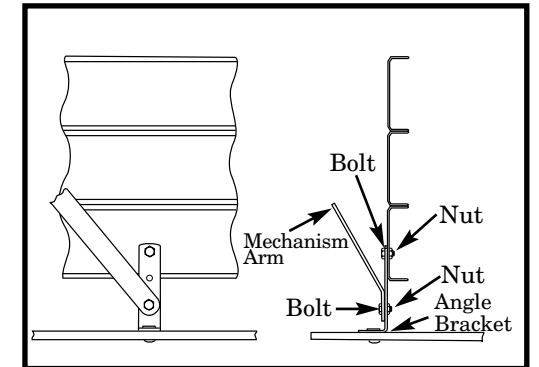

Figure 4
STEP 2. After the ladder is attached to the 6 brackets on the frame the mechanism arm should then be attached to the middle angle brackets by using the (2) 5/16" nuts and bolts to bolt through the mechanism arm and the bottom hole in the angle bracket (see Figure 4).